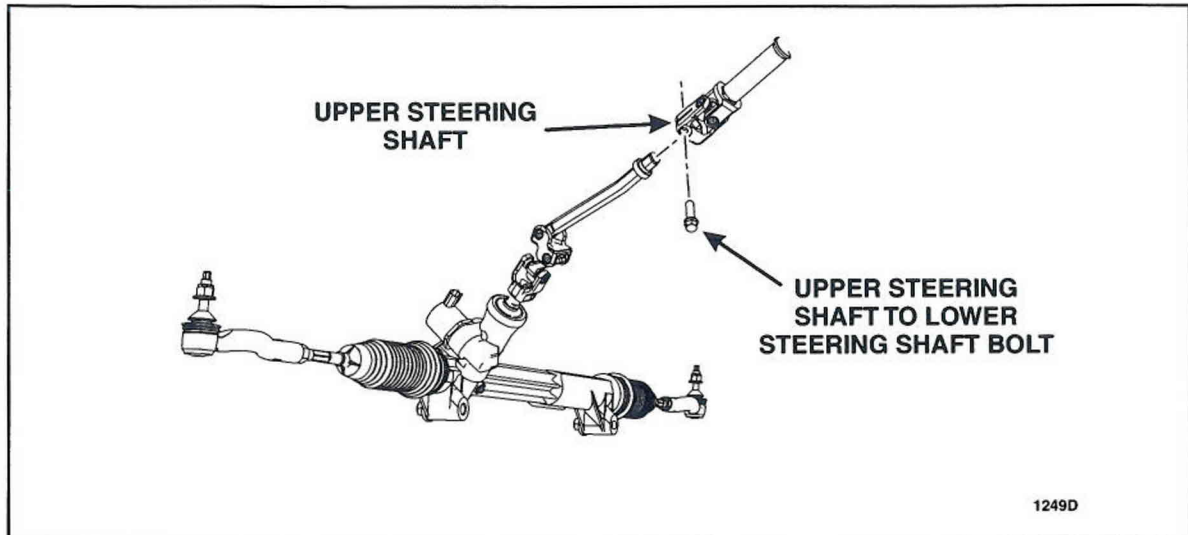

FIGURE 3
4. If not done previously, remove and discard the upper steering shaft to lower steering shaft bolt and remove the upper steering shaft. See Figure 3.
7. Install the upper steering shaft and install a *new* upper steering shaft to lower steering shaft bolt See Figure 3.